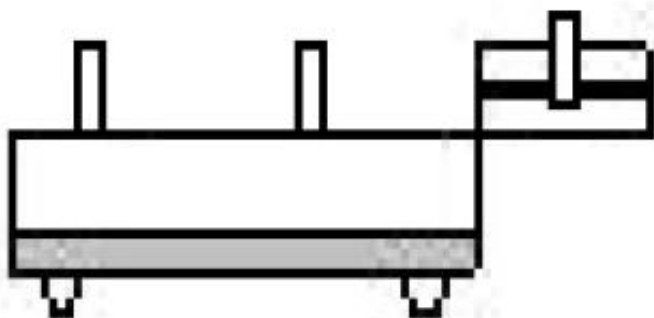

Figure 8
4.4.3 Solid sample injector (Figure 8)